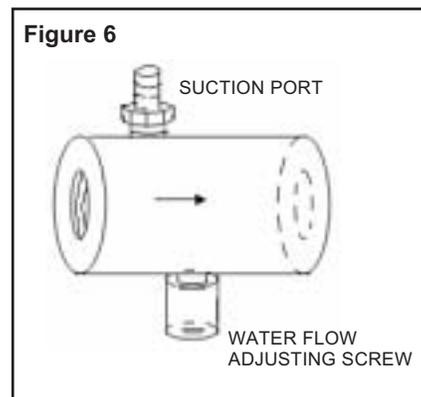

Figure 6
The pressure tank found on private well systems becomes an integral part of the filter system by providing necessary mixing and “contact time” to the “hydrocharged” water. While the iron filter will perform better on a standard air-to-water pressure tank, it will perform satisfactorily on a captive air (bladder) pressure tank. The bladder tank requires more careful adjustment of the hydrocharger and careful location of the air relief valve. (see Fig. 6 and 7, Page 6).
- B. Place a finger over suction port (Fig. 6) A slight suction should be detected for a minimum of 20 seconds or for approximately one-third of pumping cycle whichever is greater.
- C. If suction duration is too short, increase by turning water flow adjusting screw (Fig. 6) clockwise. To decrease duration, turn counterclockwise.